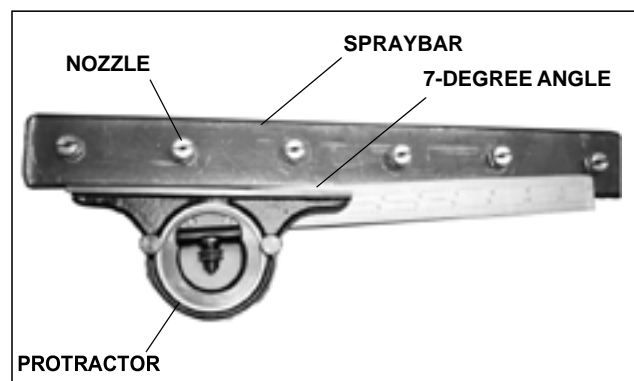

Figure 18. Setting the Spray Nozzle Angle
7. Inspect the nozzles and replace any that are no longer serviceable. Coat the threads of each new or removed nozzle with a non-permanent type Loc-Tite. Turn the nozzle into the spraybar and tighten. The groove in the nozzle face should be at about a 7° angle to the spraybar axis when tight. This setting can be made using a protractor, Figure 18.